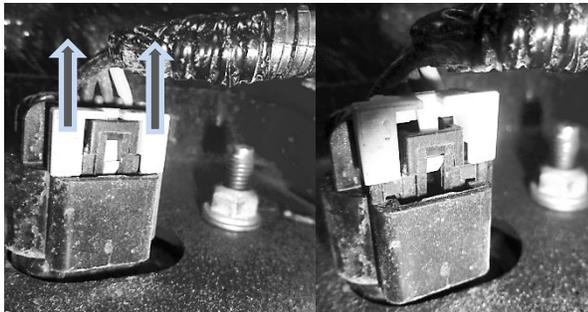

Figure 3 – Signal Wire
- ii. Signal Light: Pull white locking-clip up to unlock (see FIGURE 3), then press release tab inward and pull plug straight up.